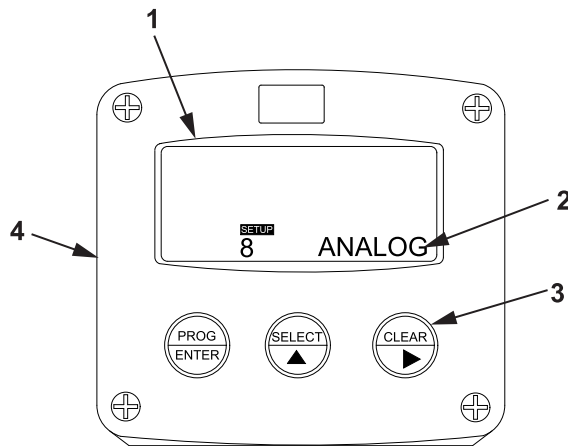

Figure 39. ANALOG Display.
- d. Verify that ANALOG (Figure 39, Item 2) appears on the display screen (Figure 39, Item 1).
- e. Press the CLEAR key (Figure 39, Item 3) on the tank volume meter monitor (Figure 39, Item 4).